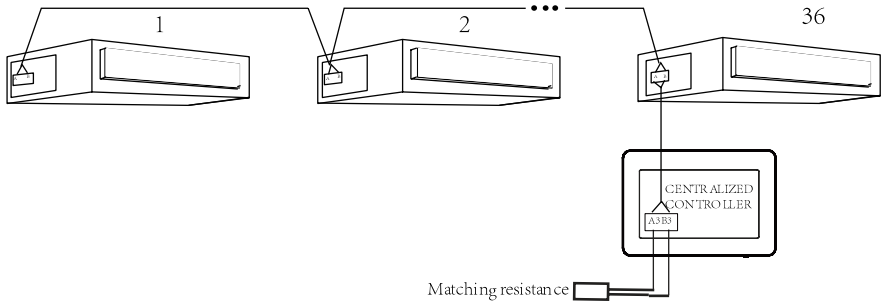

Figure 3-7 Centralized Controller Connected with UNI SPLIT Unit
(1) The centralized controller is applicable to UNI SPLIT units, One centralized controller can control up to 36 UNI SPLIT units.
(2) If the centralized controller is to be connected with UNI SPLIT units, connect according to fig.3-7. The controller must connect with terminal unit of UNI SPLIT system .Connect the centralized controller's A3 and B3 ports to